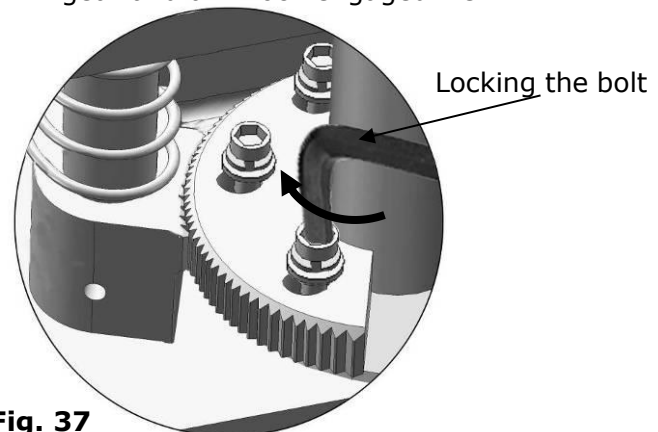

Fig. 37
4. Adjust moon gear and arm lock to make it to be meshed, then tighten the socket bolts of arm lock (See Fig. 37).